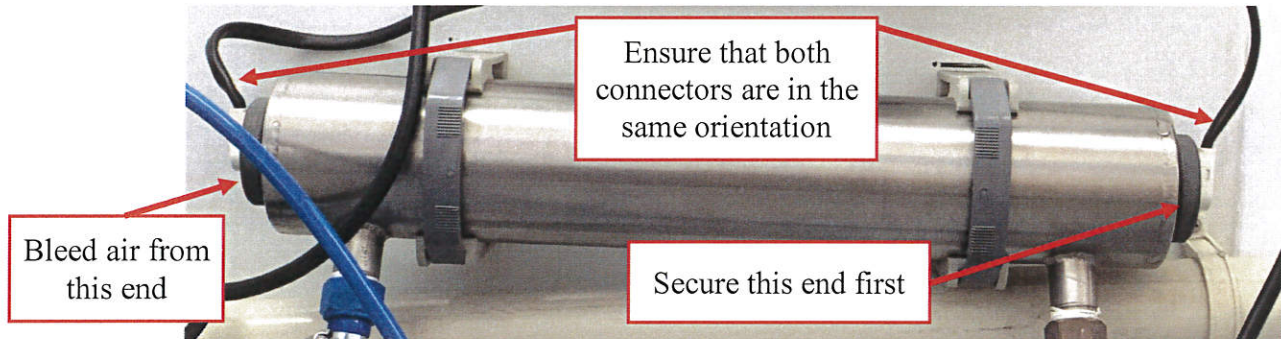

Figure 4: Reconnect the electrical connections.
6.2.9. **Reconnect the Electrical Connections.** Ensuring that both the electrical connections are replaced in the same orientation as each other, as indicated by both the connecting wires shown in Figure 4: